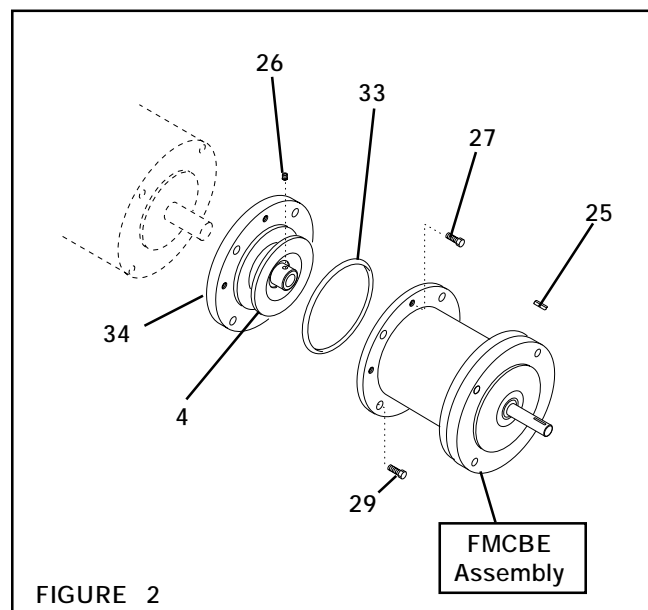

FIGURE 2
4. Slide the FMCBE output shaft into the gear reducer (See Figure 2).
5. Secure the FMCBE to the gear reducer, using customer supplied socket head cap screws, lock washers, and nuts (See Figure 2).
2. Slide the Female Pilot (Item 34) and the Drive Disc (Item 4) onto the motor shaft (See Figure 2).
3. Tighten the Set Screw (Item 26) to lock the Drive Disc (Item 4) onto the motor shaft (See Figure 2).
4. Coat the O-ring Seal (Item 33) and the seal contact surface with a film of O-ring lubricant, then wipe off any excess lubricant (See Figure 2).
5. Place the O-ring Seal (Item 33) onto the Female Pilot O-ring diameter (Item 34) (See Figure 2).
6. Slide the FMCBE Assembly onto the Female Pilot (Item 34) and the Drive Disc (Item 4) (See Figure 2).
7. Using four Nexen supplied 0.375-16 x 1.500" Hex. Head Cap Screws (Item 29), secure the Female Pilot, Drive Disc, and Housing (Item 1) to the motor (See Figure 2).
9. Using eight Nexen supplied 10-24 x 0.750" Hex. Head Cap Screws (Item 27), secure the FMCBE to the Female Pilot and Drive Disc (See Figure 2).